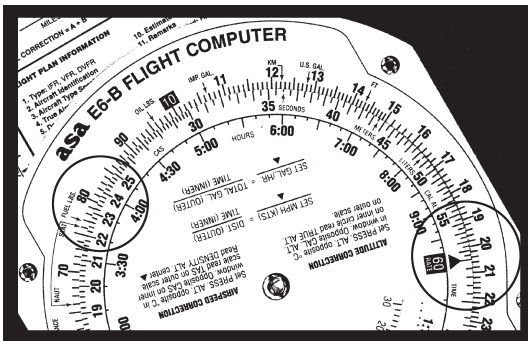

Figure 18
*Example:* Your destination is 235 miles ahead (see Figure 18 on the next page).